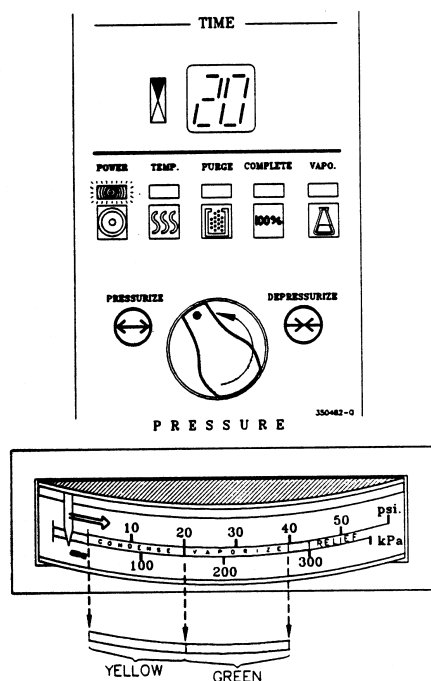

Figure 11: Starting the Cycle
- This starts the EXPOSURE phase of the cycle (see Figure 11).